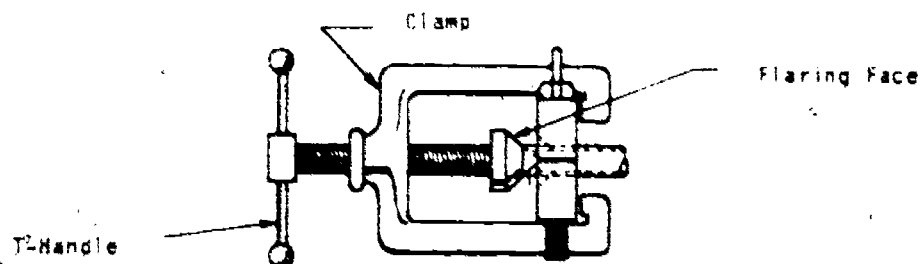

Figure 3. Flaring Yoke
5. Insert the flaring yoke over the flare block (see figure 3).